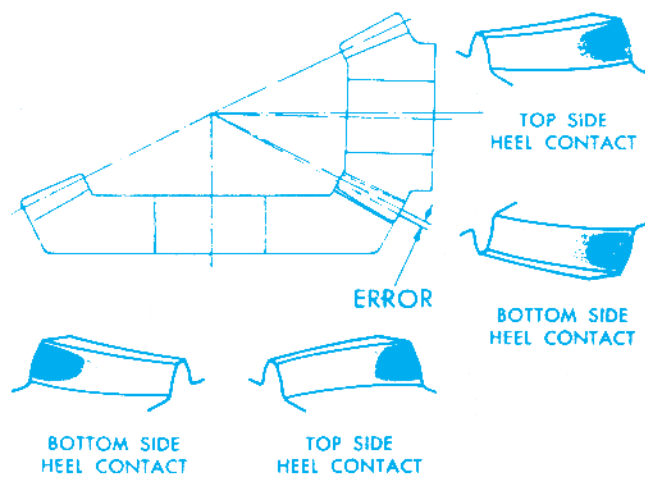

FIGURE 10
- 18.4. When a tooth contact occurs as shown in Fig. 9 of Fig. 10, refer to the following instructions.